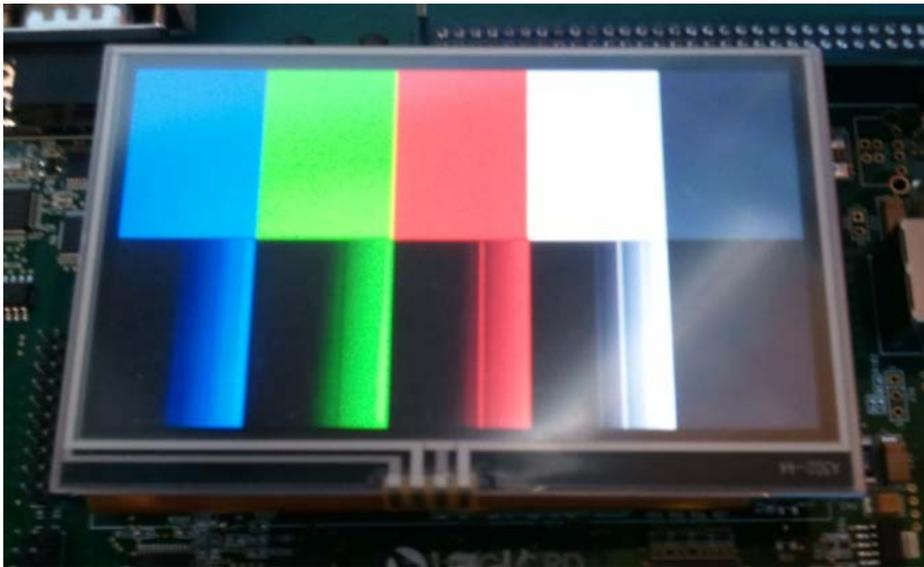

Figure 3.1: Graphics LCD Test Image
- Visible Output: See the *CCS console.txt* log file. Figure 3.1 shows the test pattern seen when running the graphics LCD Test.